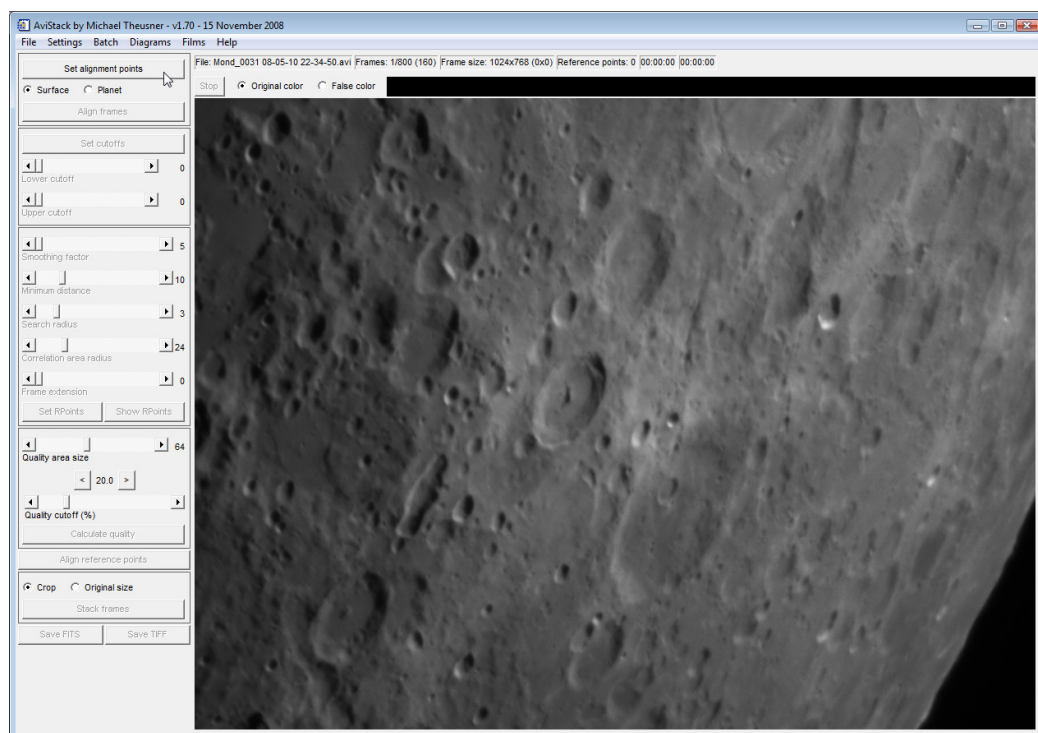

Figure 2: AviStack's GUI after opening an AVI. All relevant information on the file is shown just above the main display.
Load an AVI using the dialog window. Immediately after loading, the first frame is displayed and, additionally, all relevant information in the bar just above the main display window (Fig. 2):
- Example 1/800 (160).
- First of 800 Frames, 160 are later used per reference point (depends on the quality cutoff, here 20%, see bottom left of Fig. 2).